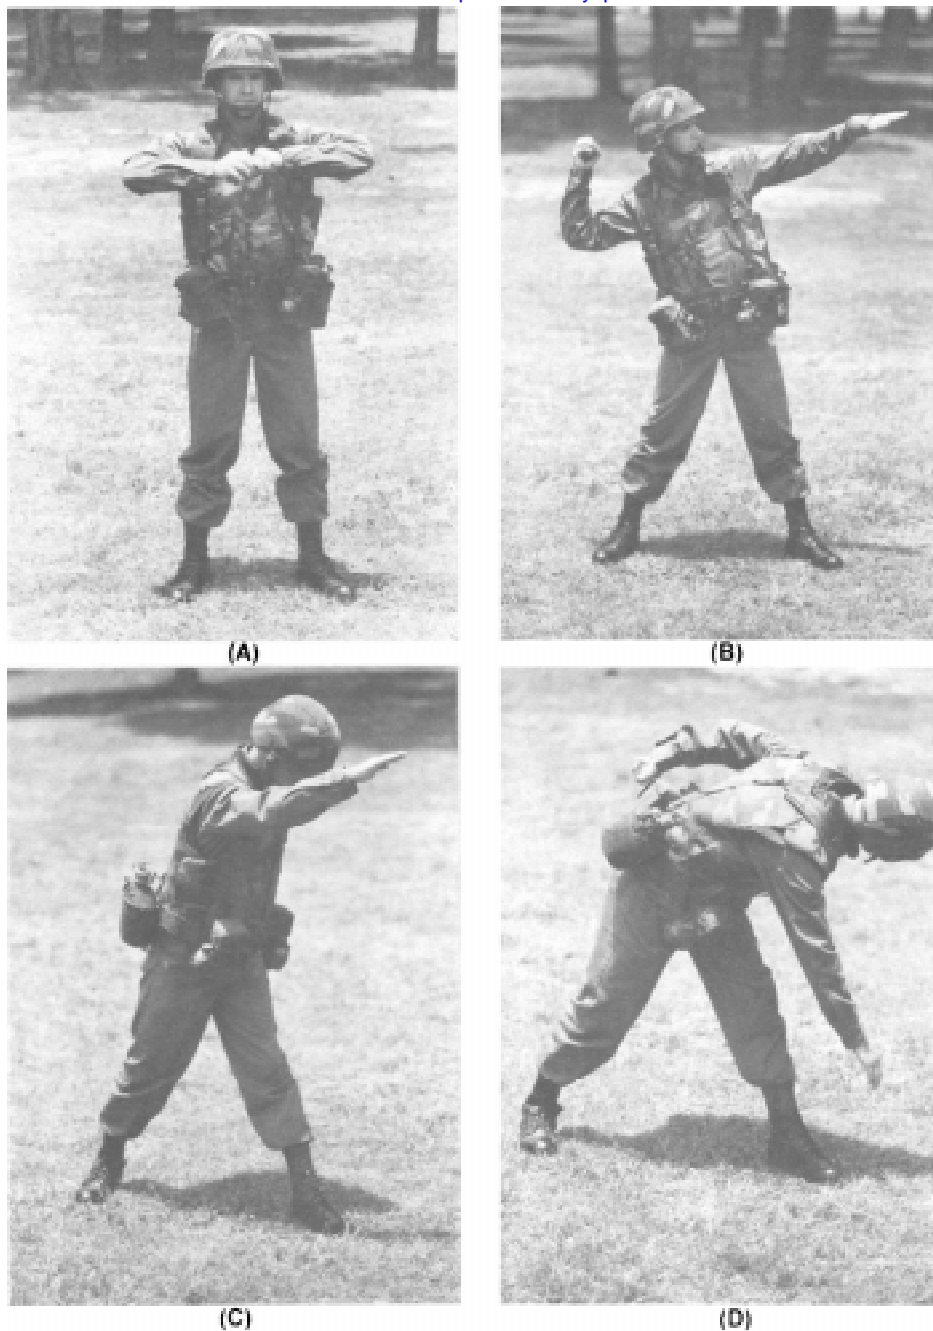
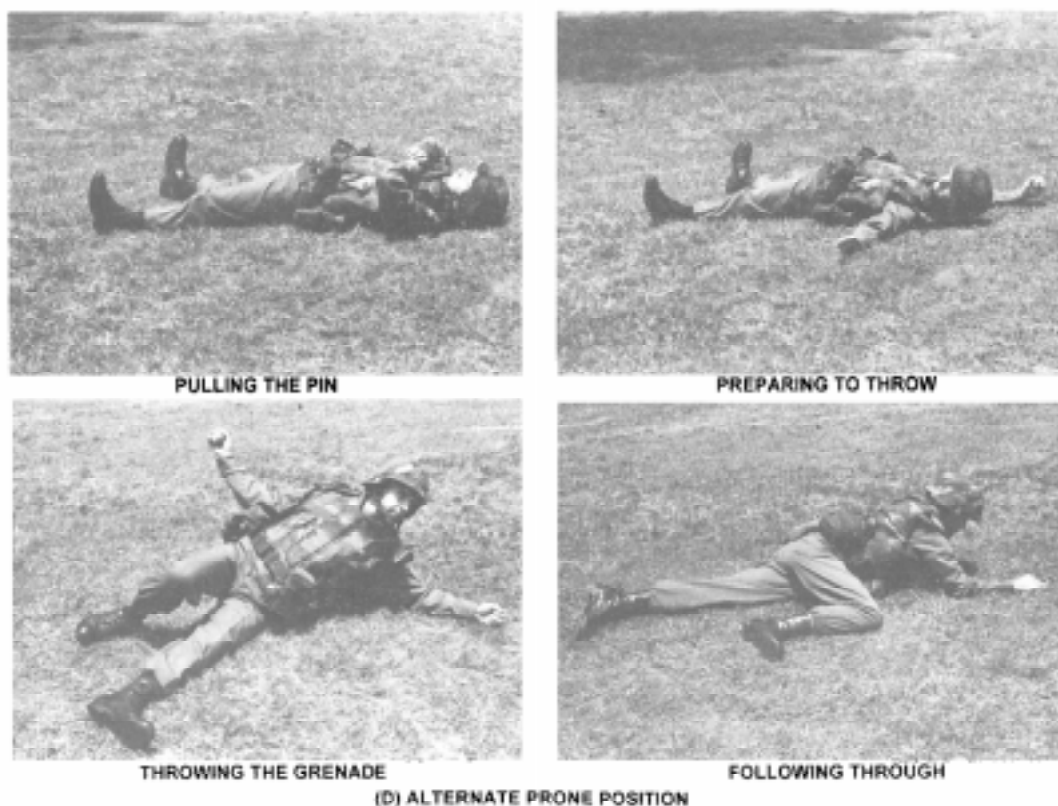

Figure 12-10.—Throwing the hand grenade.
Figure 12-11.—Throwing positions—Continued.
2. Hold the grenade at shoulder level with the grenade in your throwing hand and the index finger of your opposite hand grasping the pull ring (fig. 12-10,
target. Release the grenade somewhere forward of your body and in your general field of vision (fig. 12-10, views B and C). In this way you take advantage of the hand-and-eye coordination inherent in most people.
5. Follow through on your throwing motion beyond the point where you released the grenade (fig. 12-10, view D). This follow-through improves distance and accuracy and relieves the strain on your throwing arm.
The **STANDING POSITION** (fig. 12-11, view A) is the most natural one from which to throw grenades. This position allows you to obtain the greatest possible throwing distance. To throw from this position, use the instructions listed above and shown in figure 12-10.
The **KNEELING POSITION** (fig. 12-11, view B) reduces the distance that you can throw a grenade. Use this position when you have only a low wall, a shallow ditch, or a similar type of cover to protect you. To throw from this position, use the following instructions: